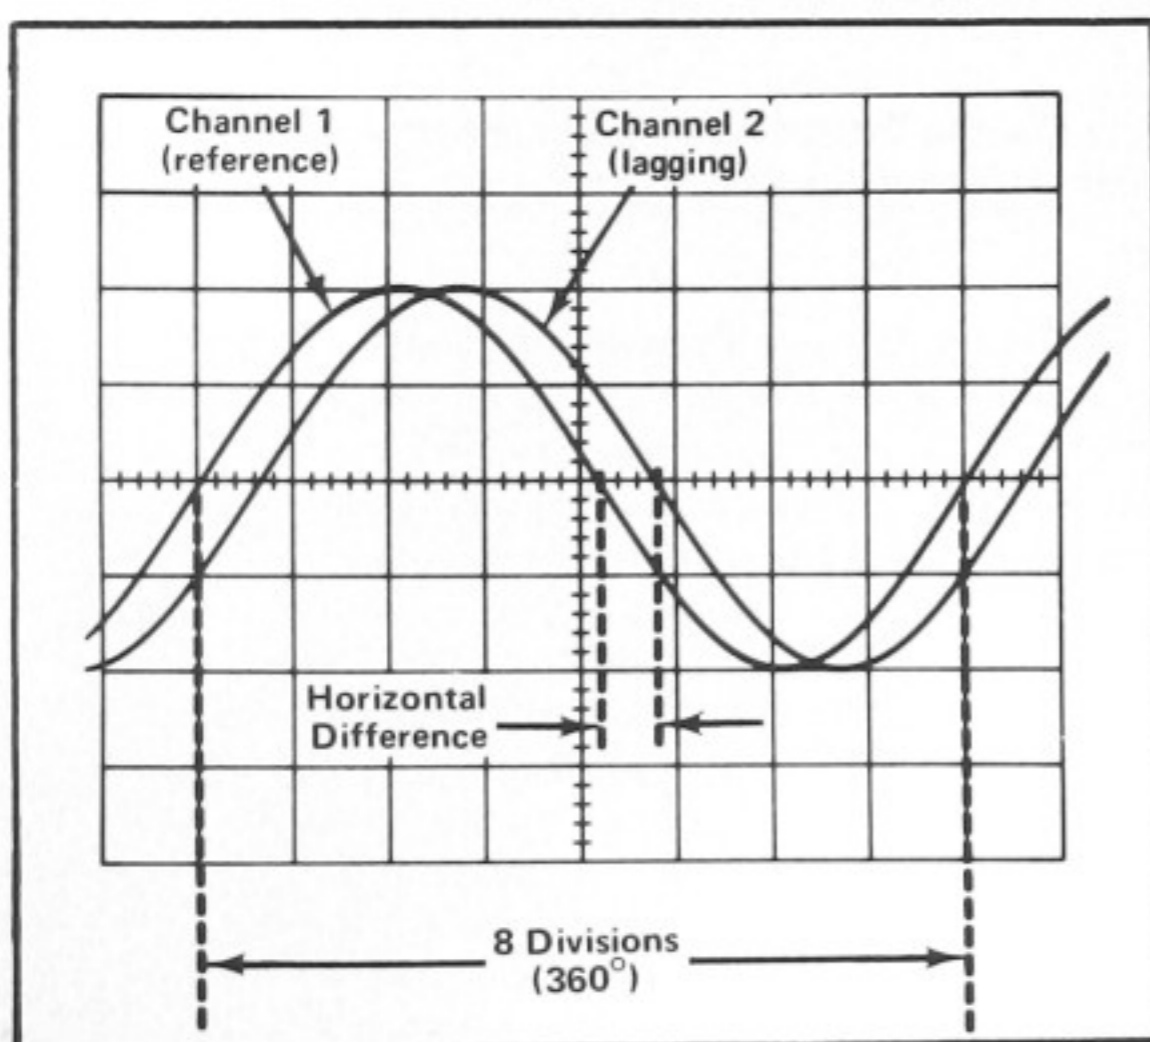
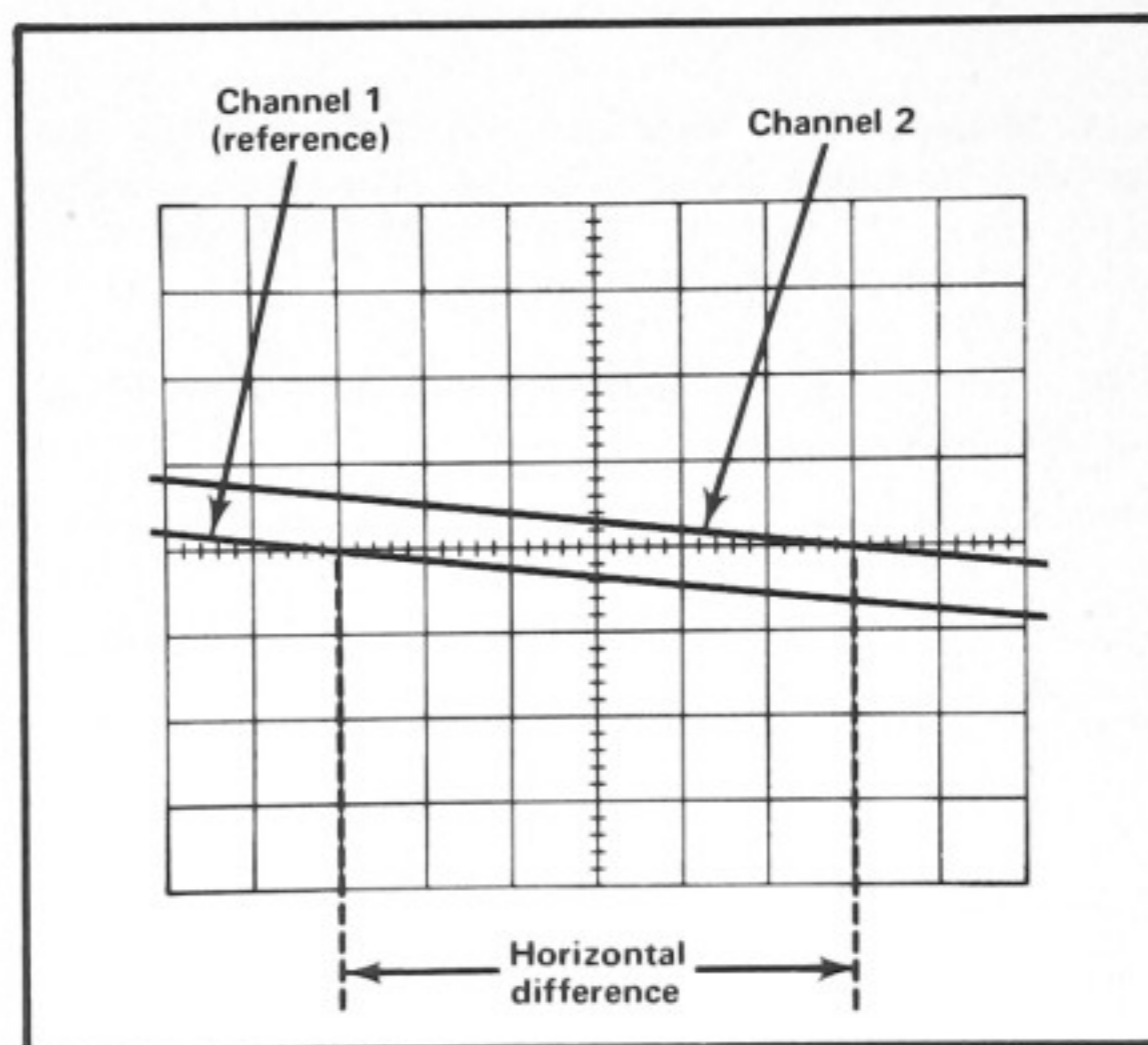

Fig. 2-12. Measuring phase difference.
Fig. 2-13. High resolution phase-difference measurement with increased sweep rate.
10. Turn the Variable TIME/DIV control until one cycle of the reference signal (Channel 1) occupies exactly eight divisions between the second and tenth vertical lines of the graticule (see Fig. 2-12). Each division of the graticule represents 45° of the cycle (360° ÷ 8 divisions = 45°/division). The sweep rate can be stated in terms of degrees as 45°/division.
EXAMPLE. Assume a horizontal difference of 0.6 division with a sweep rate of 45°/division as shown in Fig. 2-12.
EXAMPLE. If the sweep rate were increased 10 times with the magnifier, the magnified sweep rate would be 45°/division ÷ 10 = 4.5°/division. Fig. 2-13 shows the same signals as used in Fig. 2-12 but with the MAG switch set for 10X magnification. With a horizontal difference of six divisions, the phase difference is: